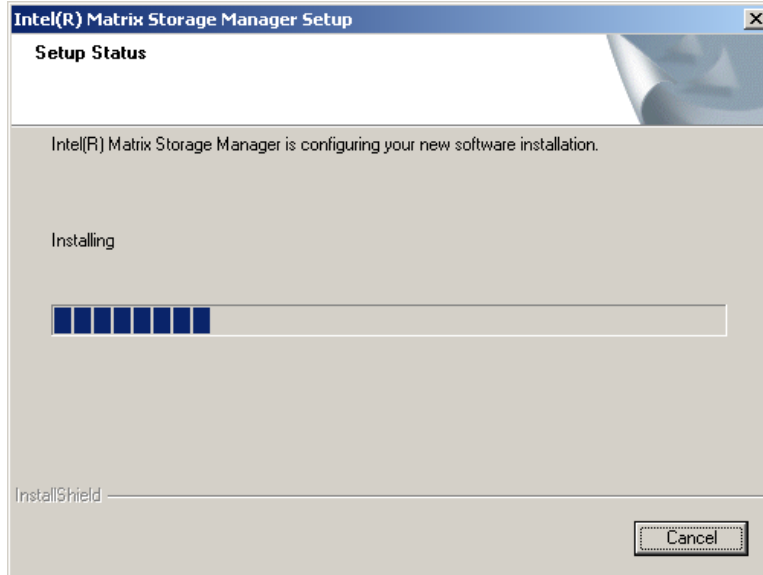

Figure 7-39: Matrix Storage Manager Setup Screen
Step 6: Figure 7-39 shows the **Matrix Storage Manager** software configuring the installation process.